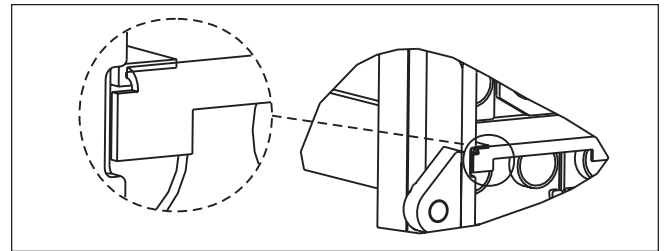

Figure 4. Barrier Tabs in Header Slots.
header as shown in Figure 4, and the barrier is seated firmly in the groove between the two rows of tubes).
8. Insert the new barrier (with U-channel gasket). Do not use the old barriers on a pump-mounted unit. (Make sure the barrier tabs match up with the tab slots on the header as shown in Figure 4, and the barrier is seated firmly in the groove between the two rows of tubes).